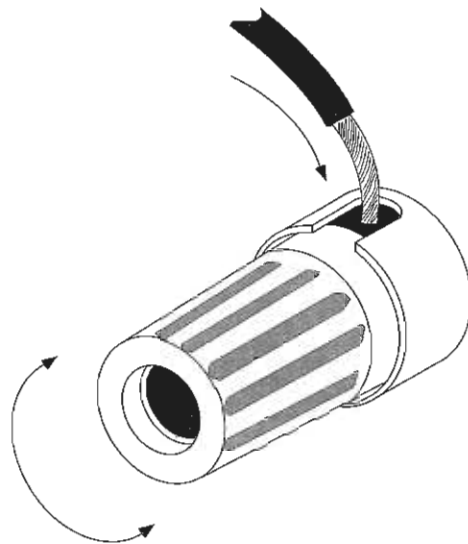

Figure 8. Bare Wire Connection
- 2) Unscrew the binding post speaker terminals and insert the wire (see Figure 8). Tighten the connection down on the wire (finger-tight is fine; DO NOT use a wrench!).